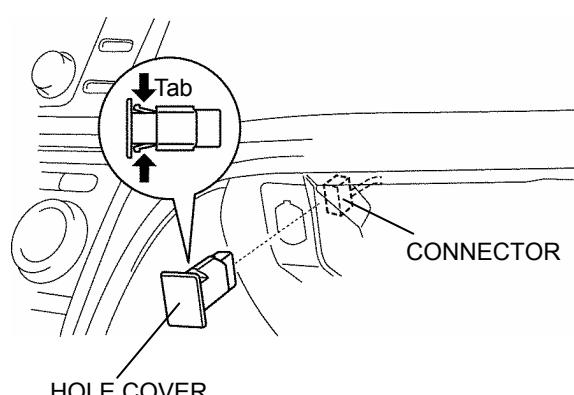

FIGURE 11
9. Remove the hole cover. (refer to Figure 11)